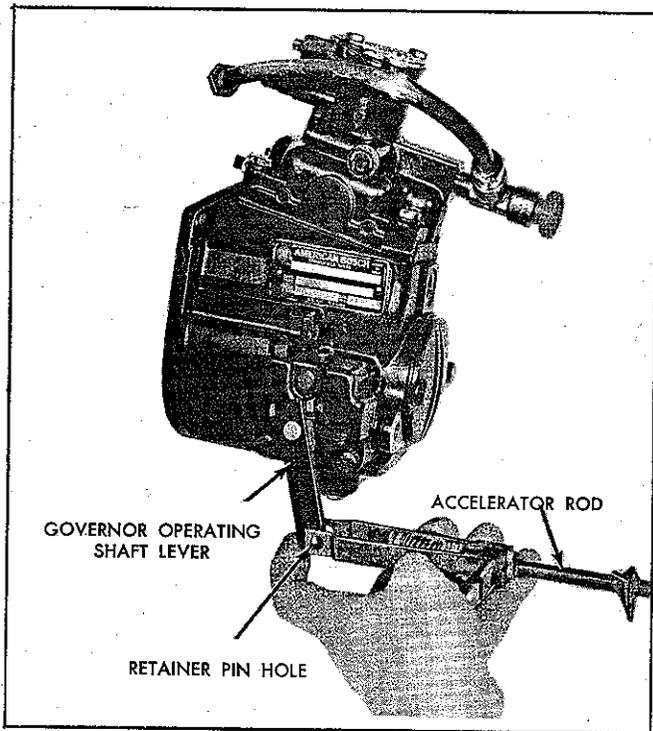

Figure 38
- (d) Screw the accelerator rod into the ball joint connection until the retaining pin hole of the detent spring assembly of the accelerator rod, just goes past the mating pin hole in the governor operating lever shaft with the arm held in full throttle position, see Figure 38.
- (6) When the accelerator rod has been adjusted correctly and reconnected, recheck to be sure the governor throttle speed stop plate contacts the high speed adjustment screw, retaining the paper strip when pulled. DO NOT, "REPEAT", DO NOT remove the governor operating lever shaft from the shaft and reposition shaft lever to the shaft to obtain the correct travel of the operating lever shaft speed stop